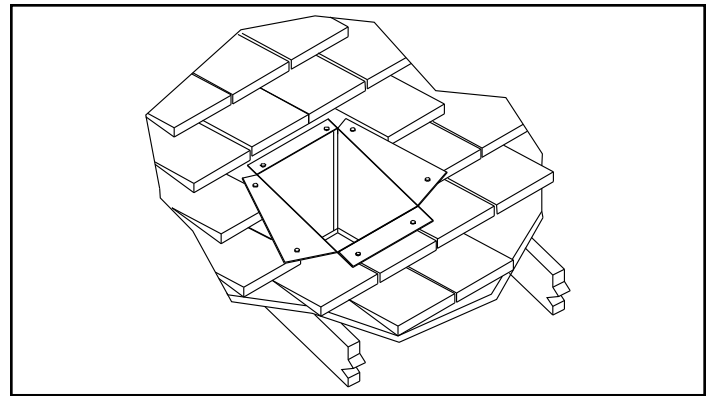

Figure 3.40
Step 5 - Using tin snips, cut the support box from the top corners down to the roofline, and fold the resulting flaps over the roof sheathing. The flaps may be trimmed as needed, Figure 3.40. Before nailing it to the roof, run a bead of non-hardening sealant around the support box to make a seal between the support box and the roof. Clean out any combustible material from inside the support box.